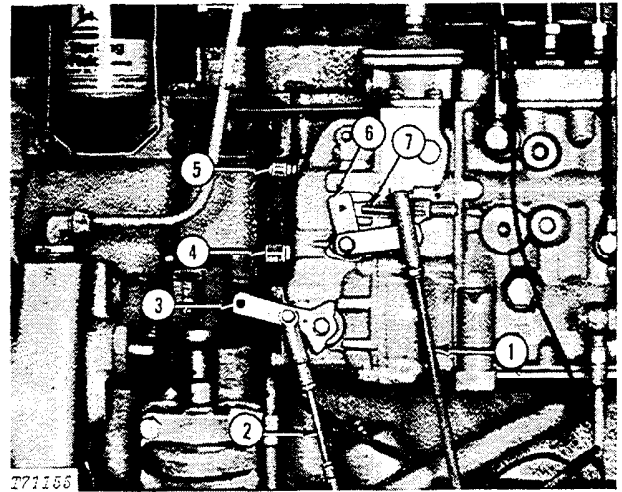

Fig. 74-Adjusting Engine Speeds
Disconnect speed control cable (1, Fig. 74) and engine stop cable (2) from injection pump. Fuel shut-off lever (3) must be all the way down.